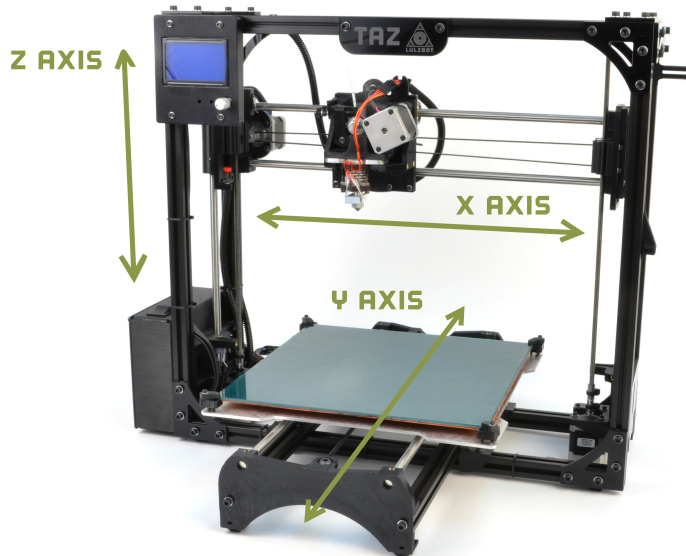
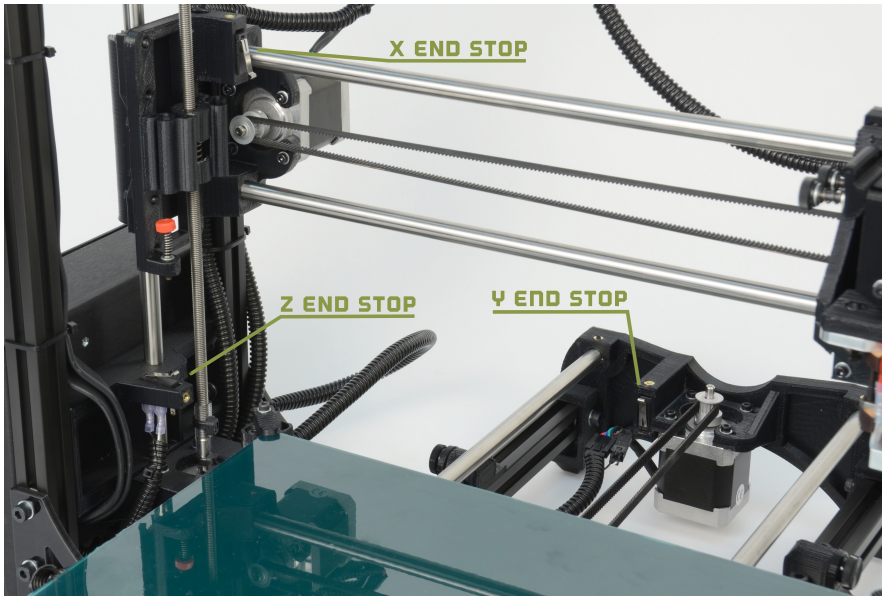

Figure 1.21: Axes movement directions
Figure 1.22: End stop locations
1. Your printer has been calibrated and tested, however, after unpacking all of the components you will need to re-mount the Y axis onto the frame and connect the bed and Y axis connectors. You will also need to re-mount the extruder tool head. Please follow the steps completely to make certain that the extruder tool head and Y axis are re-mounted correctly. You will then be on your way to your first print. Use Fig. 1.21 to see which direction the three axes move, as the following instructions will reference the X, Y, and Z axes.
17. Before moving forward you should become familiar with the TAZ Cartesian type system. The printer moves in three axes: X, Y, and Z (Fig. 1.21, page 31). These three axes allow the tool head to move to any point within the print area. Note the location of the mechanical end stops which are small switches located at the home point of each axis (Fig. 1.22, page 32). Each end stop switch allows the printer to find the 0, the origin, or starting point, of each axis. The mechanical end stops should never be blocked during the initial homing function or during a print.